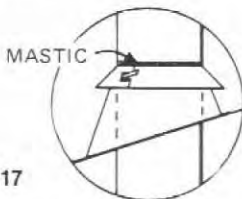

FIGURE 17
STEP 8 – STORM COLLAR If flashing assembly includes a storm collar, as with conical style flashings, slide storm collar over outer flue pipe section, insert storm tab in slot, pull tight, and bend tab back over slot. (See Figure 17).